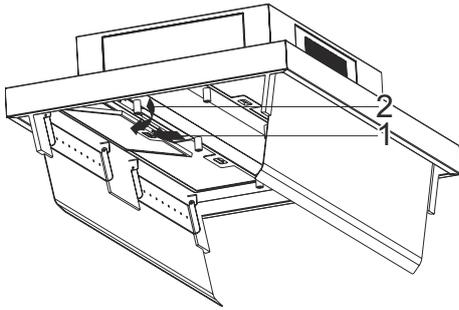

Fig. 4: Removing the metal oil filters
1. Open the lock of the metal oil filter (Fig. 4/1) and ensure that it will not fall.
2. Tilt the metal oil filter forward and lift it out (Fig. 4/2).
9. ➤ Place the metal oil filter in the product and open the filter lock (Fig. 4/1)
10. ➤ Install the metal oil filter (Fig. 4 2)